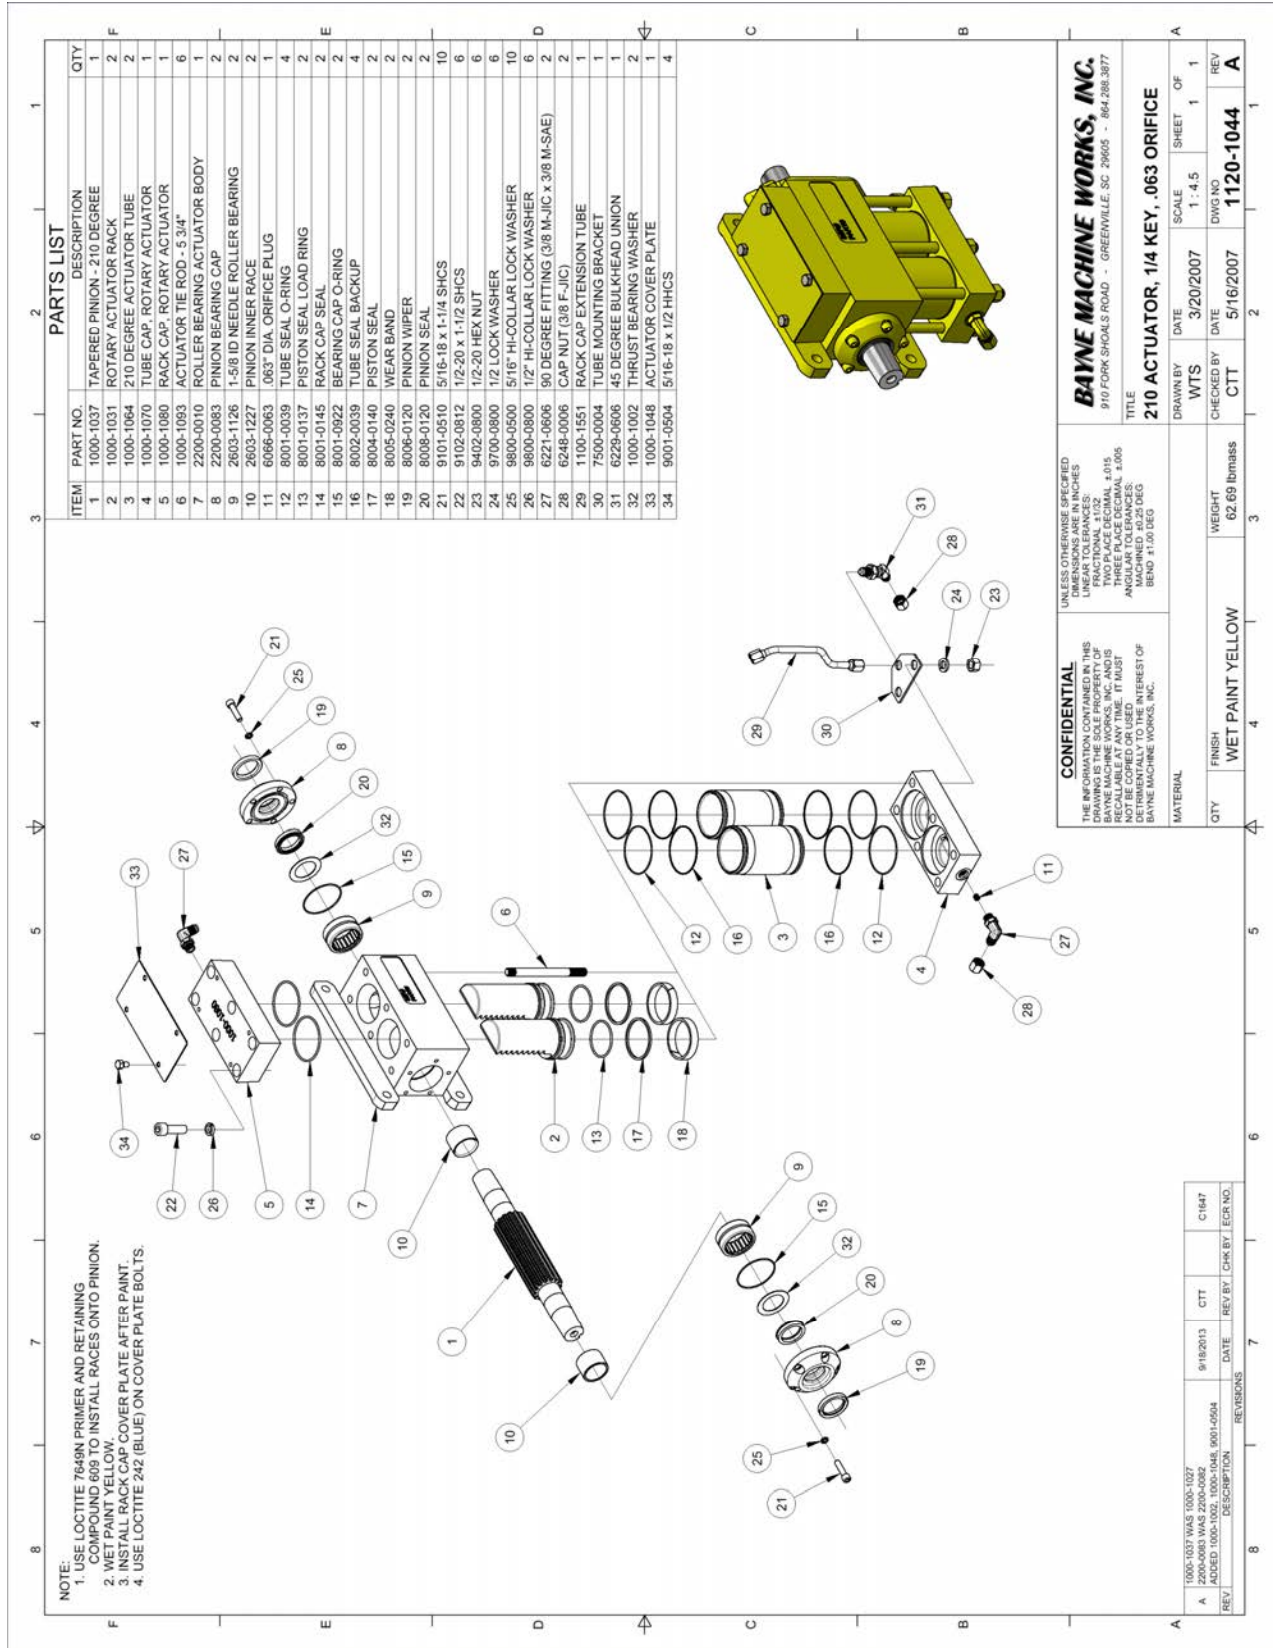

**figure A-12**
18. Wrap masking tape or electrical tape around the pinion to cover the edges at the keyway. Slide the bearing cap assembly over the pinion shaft with the bearing cap seal facing toward the actuator body and the flat surface of the flange shown in figure A-12 facing toward the actuator mounting flanges. Press against the bearing cap until the shoulder seats against the actuator body, making sure that the seals remain in place. Install the bearing cap bolts (21) (fig. A-13) and lock washers (25). Hand tighten only at this time. Repeat this procedure for other bearing cap.
19. After both bearing caps have been installed, torque all bearing cap bolts to 30 ft-lb. in the sequence shown in figure A-12.